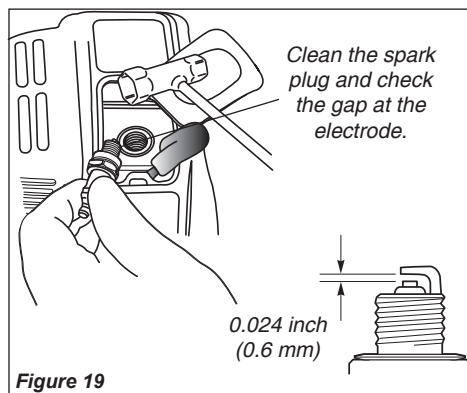

Figure 19
- Remove and clean the spark plug. See Figure 19. Adjust the spark plug electrode gap to 0.024-inch (0.6 mm). If the plug must be replaced, use only: NGK CMR5H or equivalent.